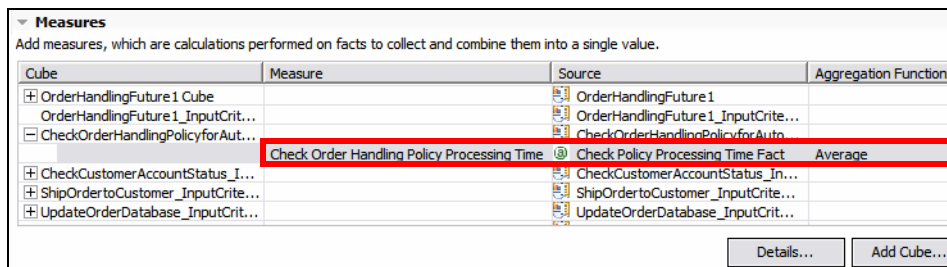

Figure 12-69 Check Order Handling Policy Processing Time measure
- ▶ Select the *Data Mart Model* tab, scroll down to *Measures* and select the *CheckOrderHandlingPolicyforAutomaticApproval_InputCriterion Cube* → *Check Order Handling Policy Processing Time* measure (Figure 12-69).